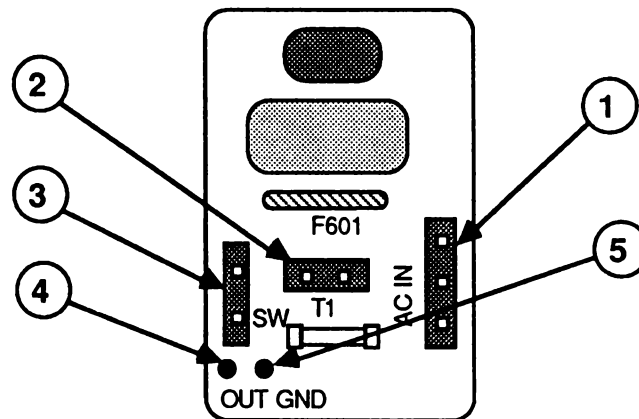

FIGURE 6
15. On the line filter board, locate the solder point (Figure 6, #4) next to the green ground wire at the marking "OUT GND" (Figure 6, #5), and desolder if there is solder present.
16. Solder the green AC IN ground wire that you just clipped to the filter board at the solder point (Figure 6, #4) next to the green ground wire (Figure 6, #5) at the marking "OUT GND."
- AC IN (Figure 6, #1)
- T1 (Figure 6, #2)
- SW (Figure 6, #3)